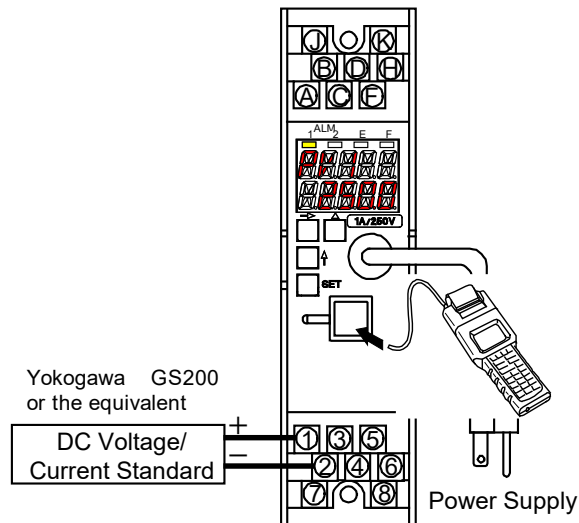
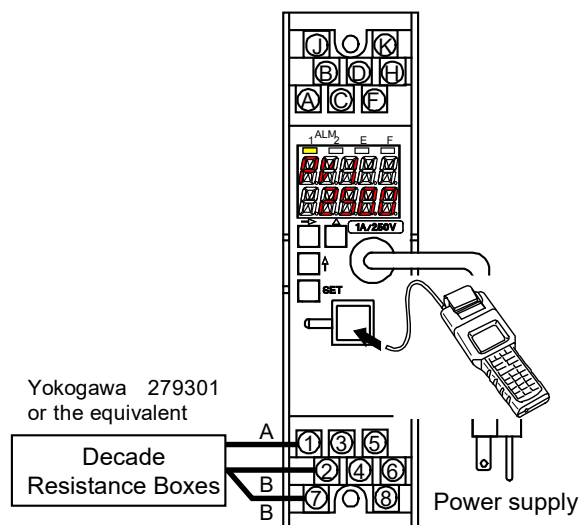

Figure 7.1 Wiring for mV DC Input Adjustment
Figure 7.3 Wiring for RTD Input Adjustment
- (a) Connect the test equipment corresponding to each of input referring to Figure 7.1 through Figure 7.3.